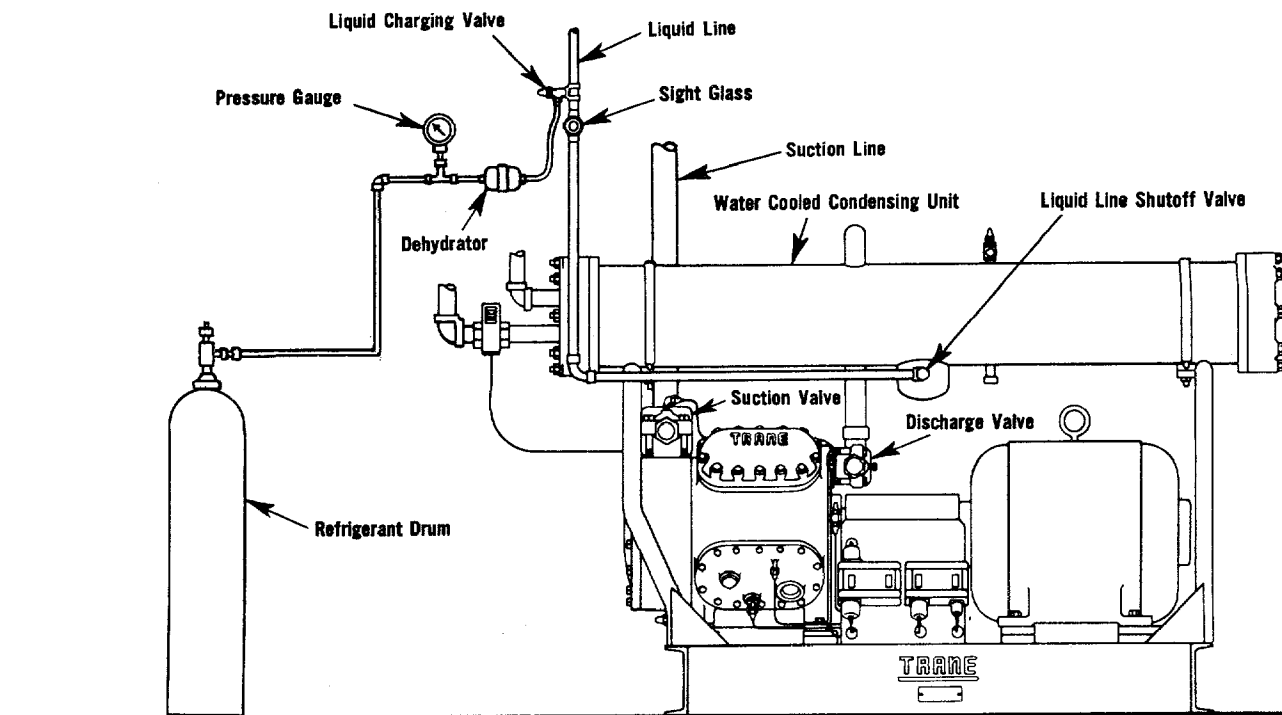

FIG. 5 High Side Charging.
1. A drum of refrigerant should be connected to the liquid charging valve as shown in Figure 5. The refrigerant should always be charged through a dehydrator as shown. The dehydrator should be attached as near to the liquid charging valve as possible. Use a dehydrator with a flare inlet and outlet and attach it to the liquid charging valve with a swivel flare nut arrangement if possible. The charging line should be tightly attached to the refrigerant drum and the inlet and outlet of the dehydrator, but the connection at the liquid charging valve should be left